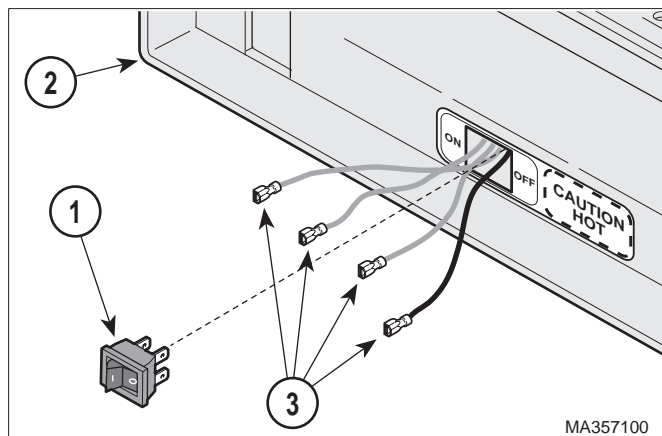

Figure 4-5. Heater ON / OFF Switch Removal / Installation
- (1) Unplug table power cord from wall outlet.
- (2) Using a standard screwdriver, carefully pry heater switch (1, Figure 4-5) out of upper wrap weldment (2), making sure not to scratch table.
- (3) Tag the wires for later assembly and disconnect four wires (3) from heater switch (1).
- (1) Connect four wires (3, Figure 4-5) to heater switch (1) (Refer to the para 5.1).